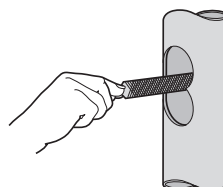

Fig. 17c Step 3
**Step 3** – Remove sides of aperture with a medium file (Fig. 17c)